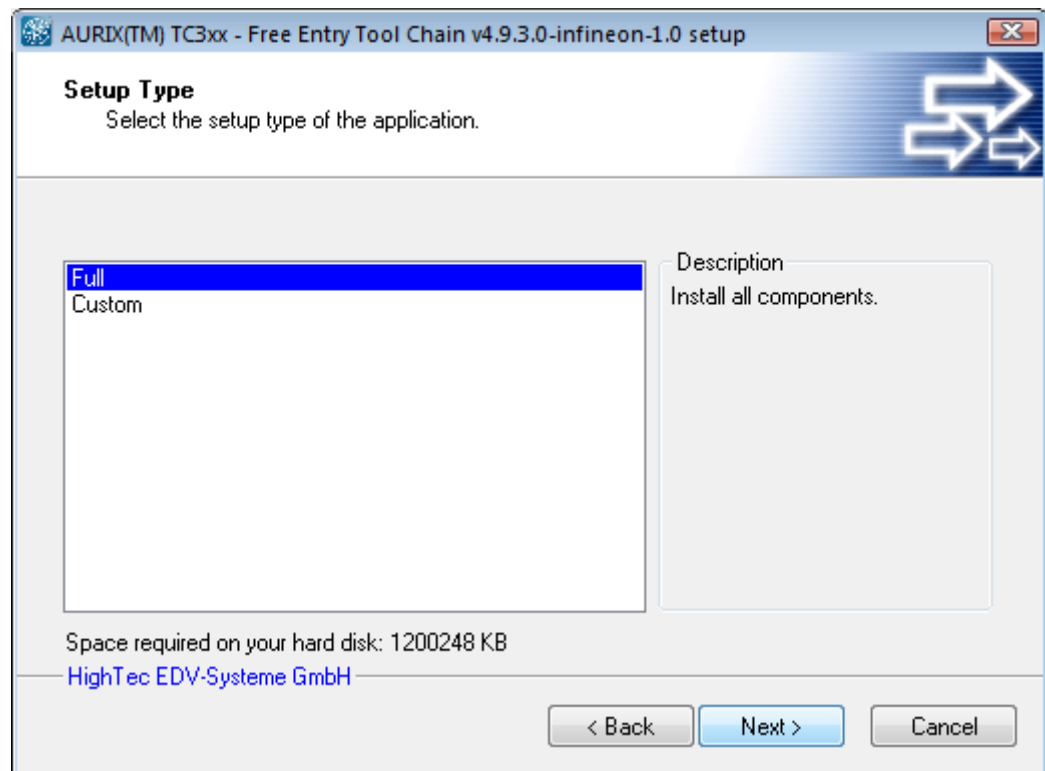

Figure 3 Setup Type selection
3. Click **Next** button. It is recommended to choose the full installation with all components (Figure 3).